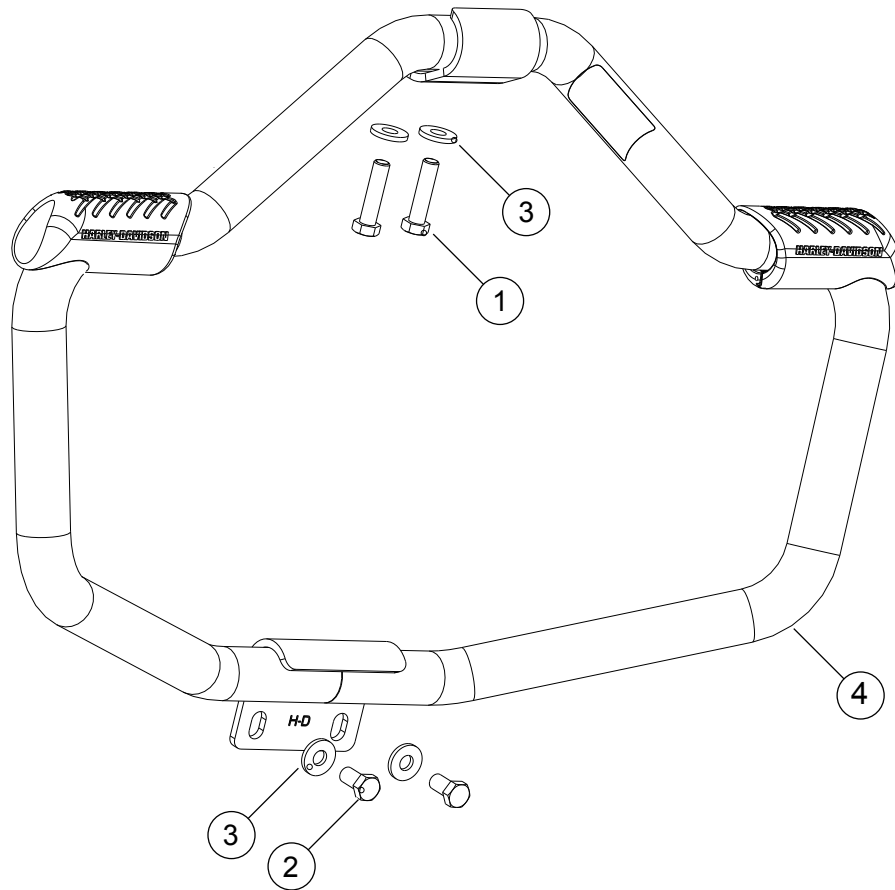

Figure 5. Sportster Mustache Engine Guard
See Figure 5 and Table 1.
3. See Figure 5. Obtain two 3/8-16 X 1-1/2 inch screws (1), two flat washers (3) and engine guard from kit (4).
5. See Figure 5. Obtain two 3/8-16 X 3/4 inch screws (2) and two flat washers from kit (3).